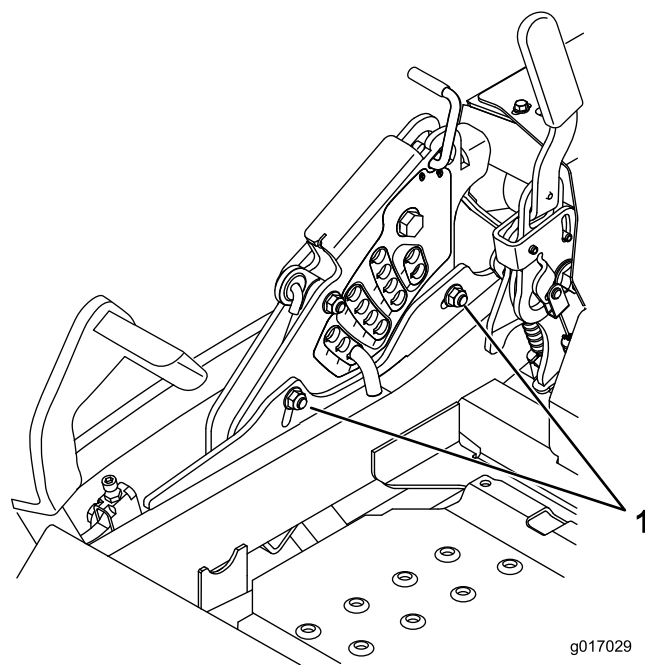

Figure 87
12. To adjust the single-point system, loosen the 2 bolts at the bottom of the height-of-cut plate (Figure 87).
14. Tighten the 2 bolts at the bottom of the height-of-cut plate (Figure 87).